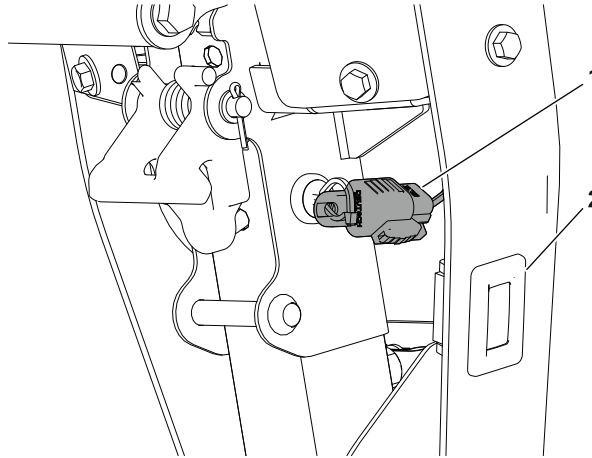

Figure 50
3. The Toro DIAG connector is located inside the upper cover assembly; refer to Figure 50.